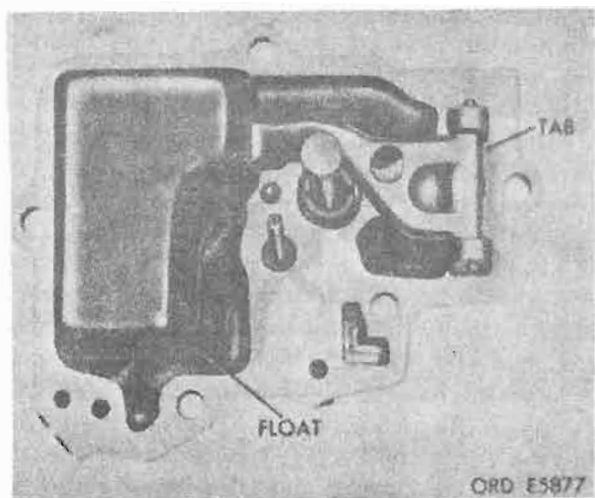

Figure 5-26. Float arm tab.
(2) Adjust float by bending tab on float arm (fig. 5-26).